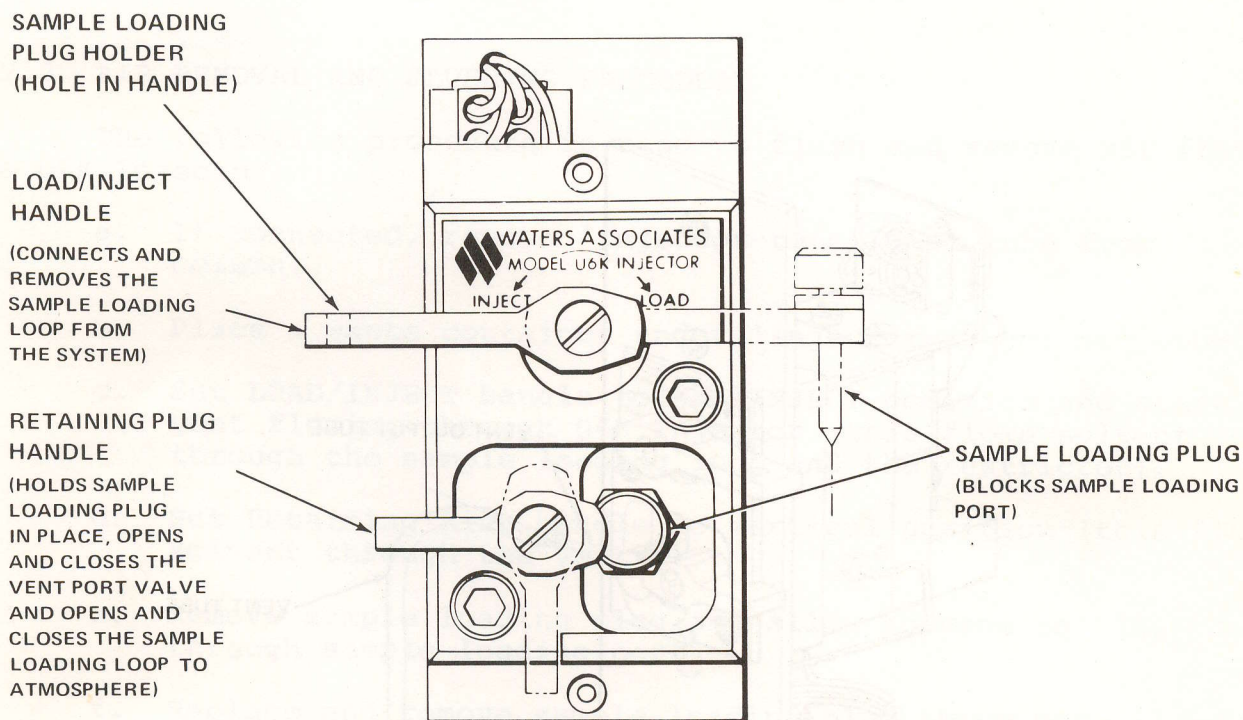

Figure 3-1. Model U6K Injector Controls
Figure 3-1 illustrates and outlines the functions of the Model U6K Injector controls.
- a. Set LOAD/INJECT handle (Figure 3-1) to INJECT (left) position.
- c. Set Retaining Plug handle (Figure 3-1) to vertical position and remove sample loading plug. Allow approximately 3 ml of solvent to flow from vent tube and out of sample loading port.